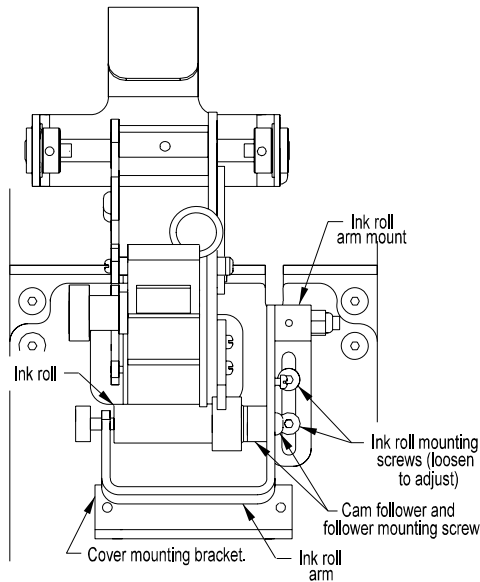

Figure 3.18
1. To adjust loosen the two screws, which secure the ink roll mount arm to the top track (Figure 3.18).
2. If the ink roll is tipped, align it by slightly loosening the screw that attaches the cam follower (Figure 3.18).